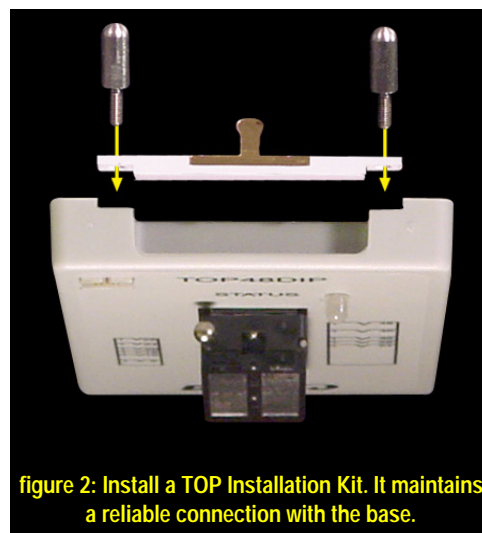

figure 2: Install a TOP Installation Kit. It maintains a reliable connection with the base.
2. Install a TOP Installation Kit for each TOP by positioning the 'T'-bar over the two thread inserts knob-side up. Then screw a locating pin into each of the thread inserts to secure the 'T'-bar. See figure 2.